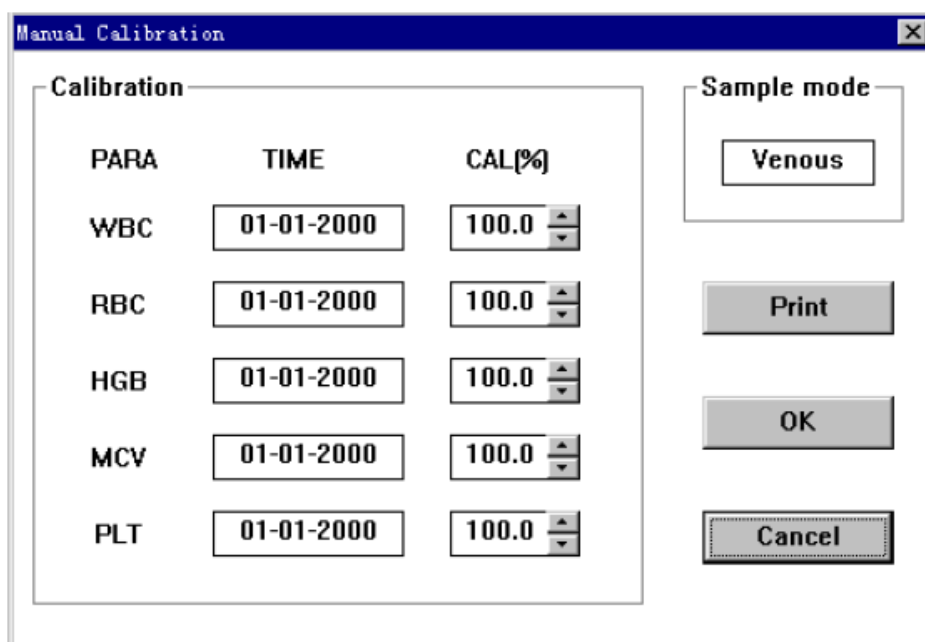

Figure 5-1
- In the blood cell analyzer window, press the right key of the mouse, pops up the menu. Select "Manual Calibration" in the menu, enters the calibration window, as shown in figure 5-1.